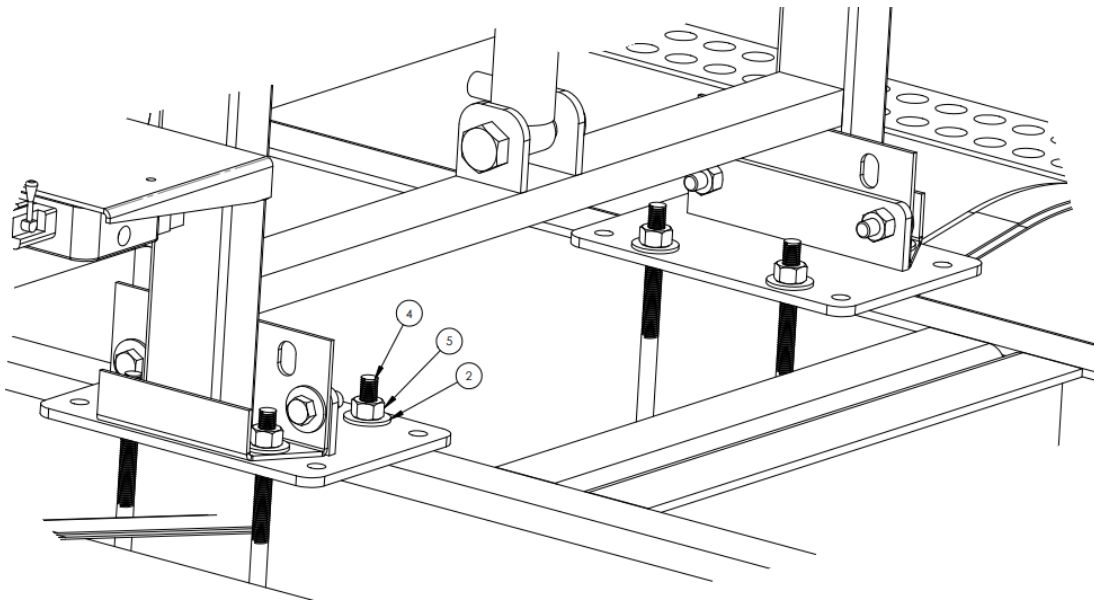

Figure 1.4: Mounting U-Bolt Plates to Chassis
Start by routing one of the u-bolts (4) under the frame rail. There are four sets of holes on the mounting plate. The two primary sets run through the gantry feet. The primary holes should be used unless the u-bolt cannot be routed through them, see *Figure 1.4*. Hand tighten provided washers (2) and hex nuts (5) on to the u-bolts (4) to keep in position. Do not tighten yet.